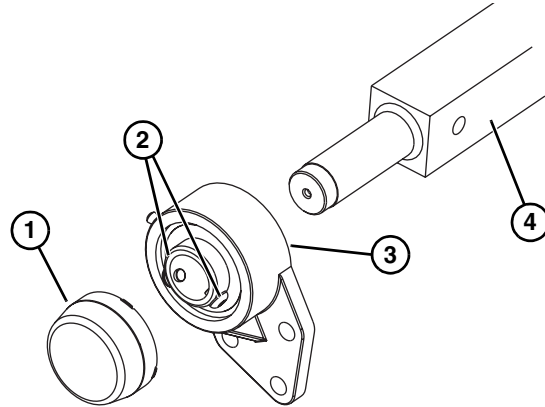

Figure 80
2. Remove the bearing cover (Figure 80, item 1).
3. Use a hex wrench to loosen the bearing shaft assembly fasteners (Figure 80, item 2).
4. Slide the bearing flange assembly (Figure 80, item 3), off the spindle shaft end (Figure 80, item 4).